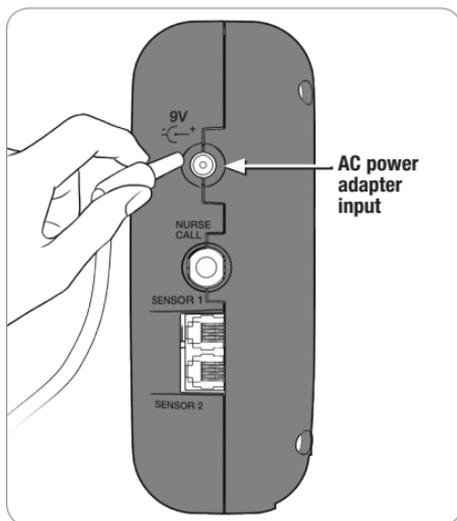

Fig. 12
1. Connect the AC power adapter to the Sitter On Cue (Fig. 12).